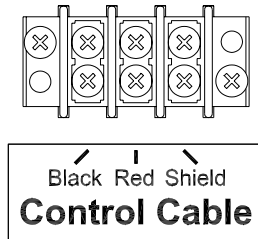

Figure 16 Control Cable Wiring Diagram
3. Connect the control cable to terminal block labeled **Control Cable** on the junction chassis according to figure 16.